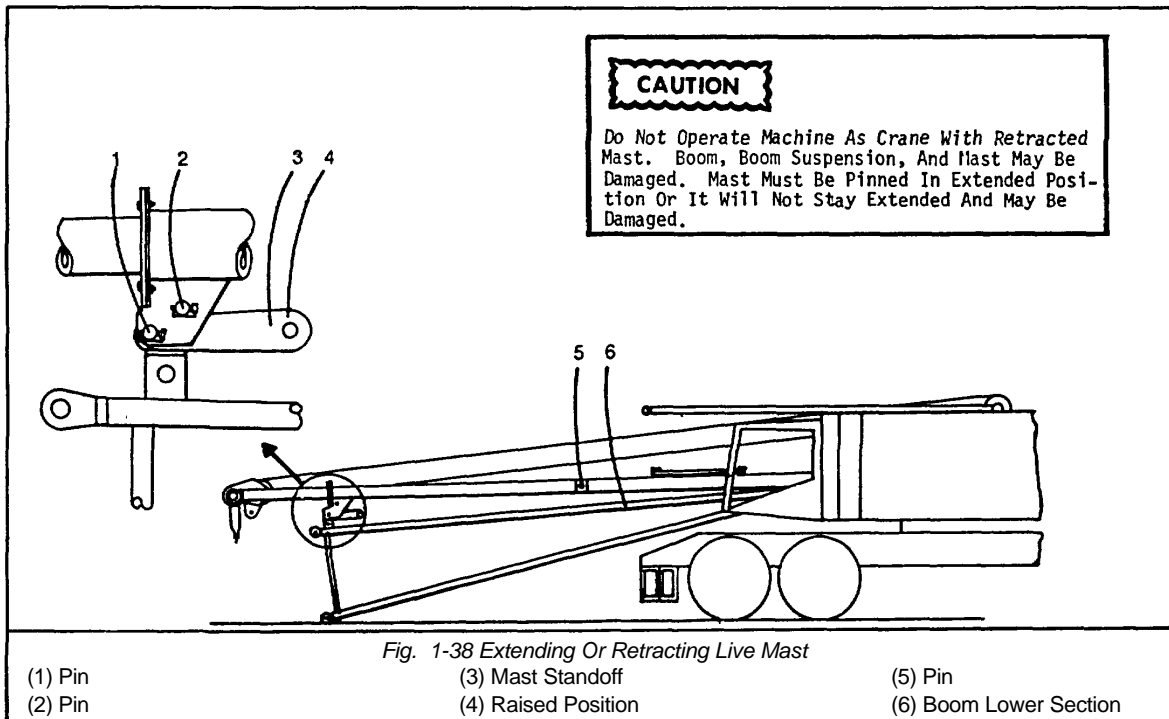

Fig. 1-38 Extending Or Retracting Live Mast
- If the boom is on the machine, lower boom to ground, position the mast standoffs as shown in Fig. 1-38, then pay out B.H. ropes until the standoffs contact the lugs on the boom lower section.
- Position the mast standoffs as shown in Fig. 1-38, then pay out on B.H. rope until the standoffs contact the lugs on the boom lower section.